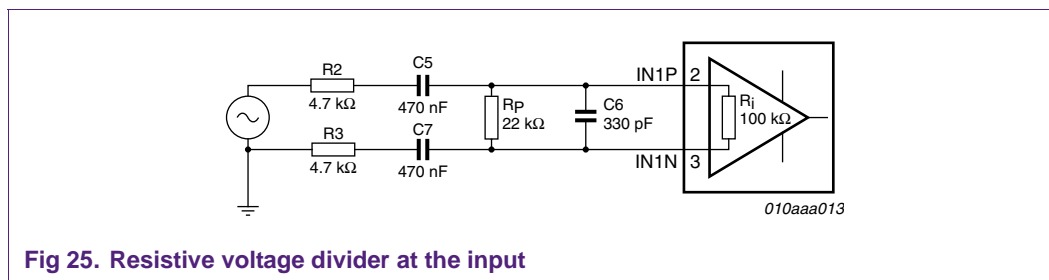

Fig 25. Resistive voltage divider at the input
The gain of the TDA8932B/33(B) is fixed internally at 30 dB for SE configuration (or 36 dB BTL configuration). The gain can be reduced by a resistive voltage divider at the input (see Figure 25).